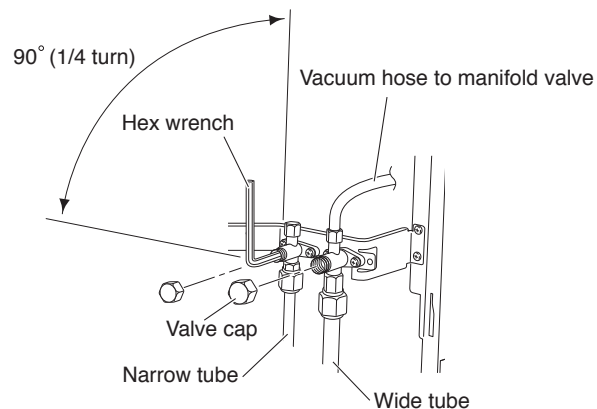

Fig. 58
- (5) With the vacuum pump still running, close the “Lo” knob of the manifold valve. Then stop the vacuum pump.
- (6) With the hex wrench, turn the valve stem on the narrow tube service valve counter-clockwise by 90 degrees (1/4 turn) for 10 seconds, and then turn the stem clockwise to close it again. (Fig. 58)